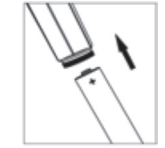

fig. 2
3. Insert two AA alkaline batteries (not included) into the device handle, ensuring both batteries' positive ends point to the head of the device (fig. 2).
3. Replace with two new AA alkaline batteries. Ensure both batteries' positive ends point to the head (fig. 2).